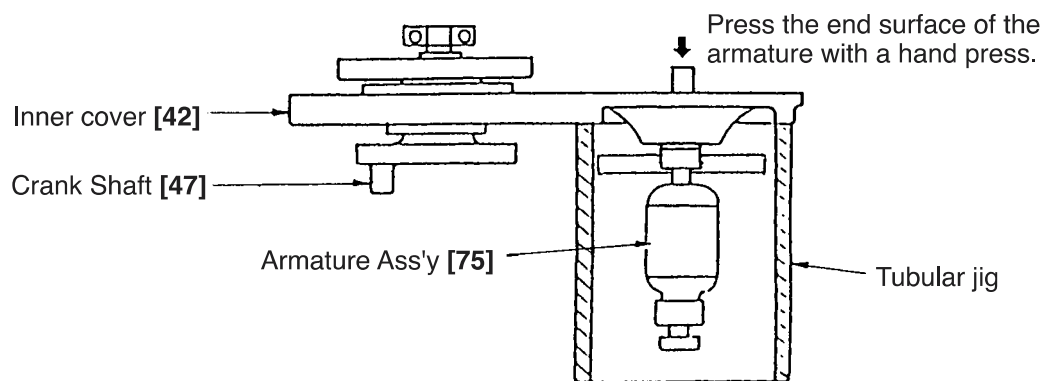

Fig. 1
(1) Disassembly of the Armature Ass'y [75]
- C. Remove the four Seal Lock Hex. Socket Hd. Bolts M5 x 16 [63] and three Tapping Screws (W/Flange) D4 x 25 (Black) [96]. Remove Handle (A) [85], Handle (B) [87], four Nylock Bolts (W/Flange) M5 x 12 [105] and Back Cover [82]. Remove the six Seal Lock Hex. Socket Hd. Bolts M6 x 45 [60], Gear Cover [38] and Counter Gear [65]. Insert a flat-blade screwdriver or a similar tool into the air vent of the Inner Cover [42] and raise the Inner Cover [42]. Then the Inner Cover [42], Armature Ass'y [75] and Crank Shaft [47] can be removed as a single unit. At this time, be very careful not to damage the Fan [74].
- D. As illustrated in Fig. 1, support the Inner Cover [42] with an appropriate tubular jig, and push down on the end surface of the armature shaft with a hand press to separate the Armature Ass'y [75] from the Inner Cover [42].